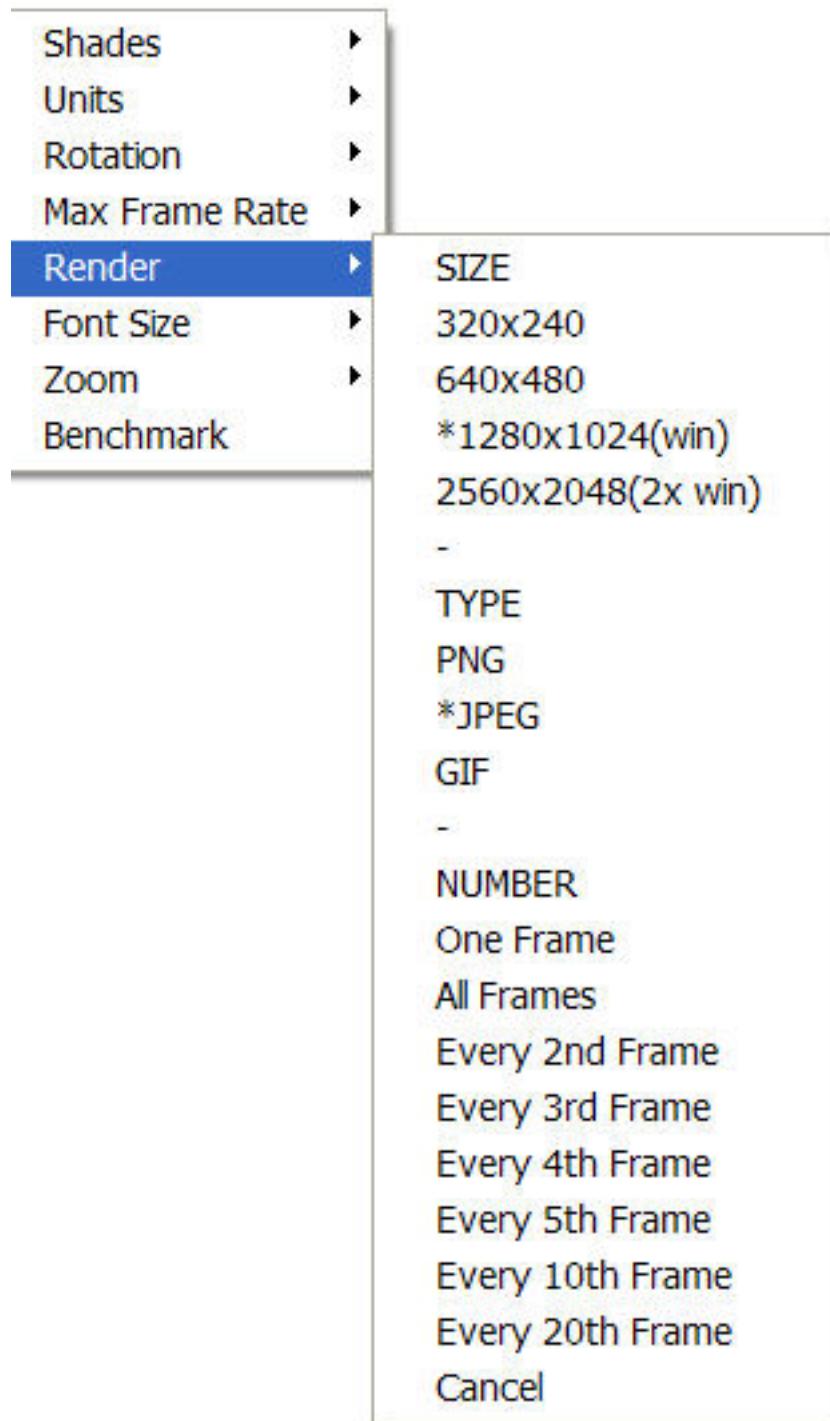

Figure B.7: Render Menu.
The `Render` menu, illustrated in Figure B.7, allows one to create PNG or JPEG image files of the currently displayed scene. The graphics library, GD 2.0.15, was used to create the rendered versions. GD 1.0 is documented in reference [10, Appendix 4]. GD 2.0.7 now creates images using *full color* allowing for more realistic scene representations eliminating the color banding that occurred with the previous version because of the limited number (256) of colors used to represent images. Due to patent disputes, GD 2.0.15 has dropped support for the GIF file format and uses JPEG or PNG instead.